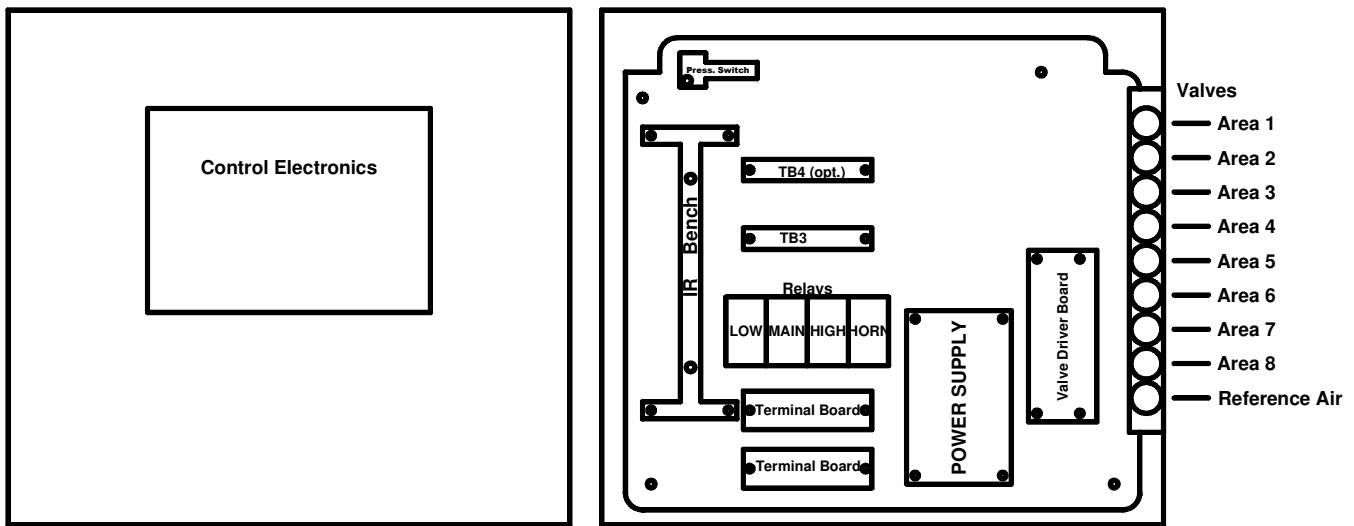

Figure 4 Control Electronics Diagram
**Control Electronics:** Refer to the figure 4 for control electronics block diagram. The signal from the infrared bench is analyzed by the control circuit and converted into a digital measurement in ppm (parts per million). The ppm level is compared to trip points set for Low, Main and High alarm levels. If the ppm level exceeds the Low alarm threshold, the “Leak Wait” algorithm is used to determine whether the monitor has experienced a transient exposure, or a leak truly exists. If the ppm level remains above the Low alarm threshold on completion of leak wait, the Low alarm relay is energized. If the signal continues to increase, the Main alarm relay will be energized and ultimately the High alarm relay. Once the system enters Low, Main or High alarm, it will remain in that mode until the problem is cleared and the system is reset.